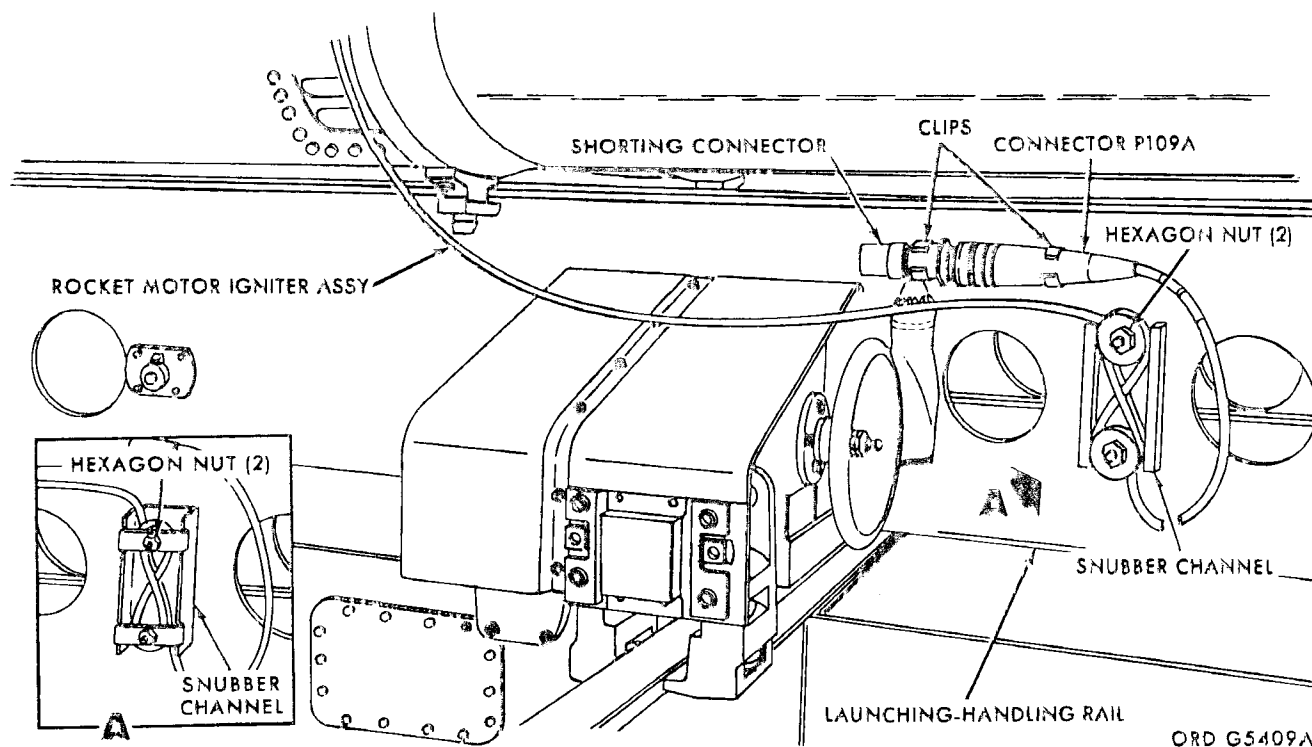

Figure 10-10. Rocket motor igniter cable assembly stowed on the launching-handling rail.
k. Loosen the hexagon nuts (fig. 10-10) on the snubber channel sufficiently to permit the installation of the rocket motor igniter cable assembly.